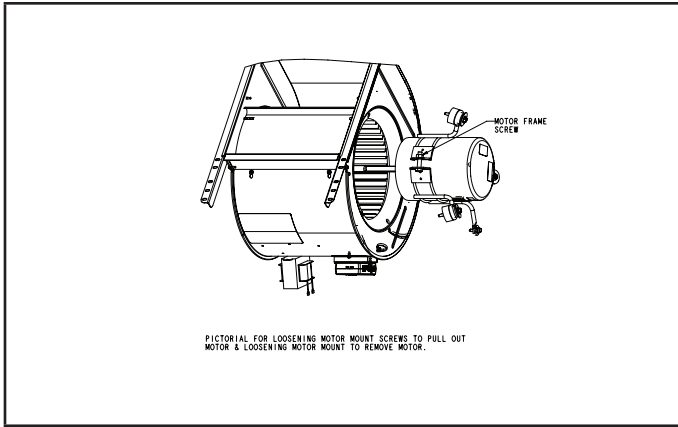

FIGURE 2
- 6 - Loosen motor belly band screw and remove the motor from the blower housing. See figure 2.